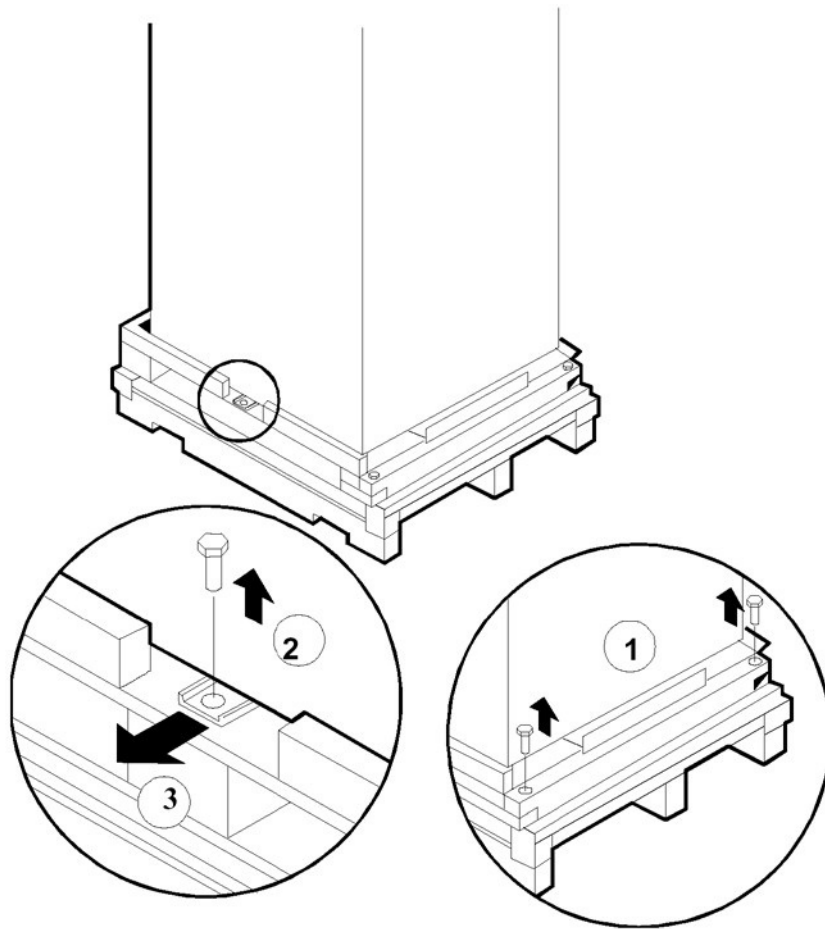

Figure 15 Unclamping
- 6 Remove the two bolts (1) holding the anti-roll block in place at the bottom-rear (see Figures 15). Remove the block.